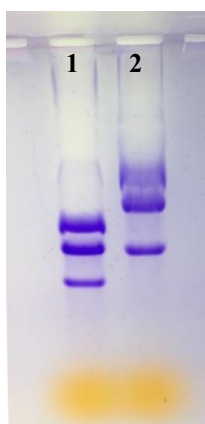

Figure 1. Agarose gel electrophoresis using the gel containing Crystal Violet.
8. Monitor the long ssDNA blue bands moving in the gel during electrophoresis (Figure 1). Stop the electrophoresis after the bands are sufficiently resolved. ^{*11, *12}